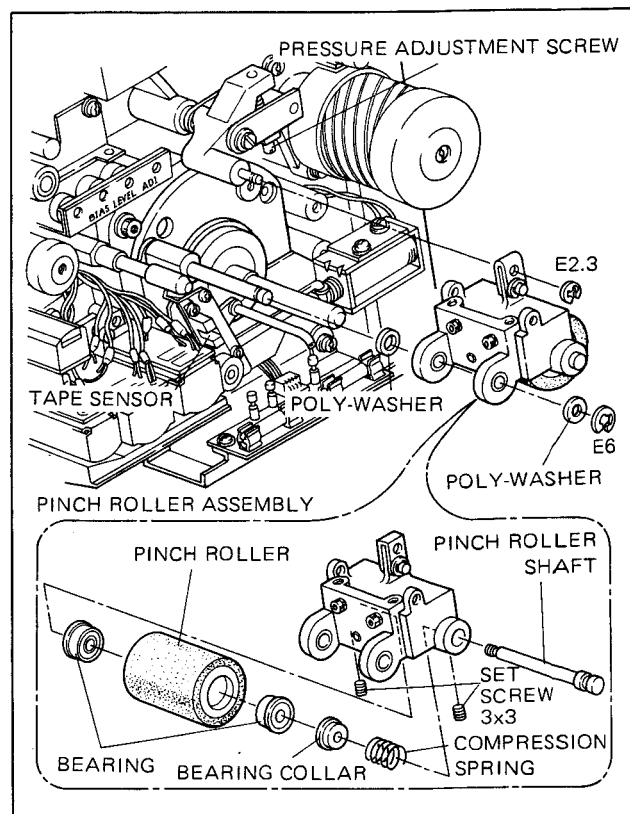

Fig. 3-52. Pinch Roller Replacement
1. Remove the two E rings shown in Fig. 3-52, and remove the pinch roller assembly.